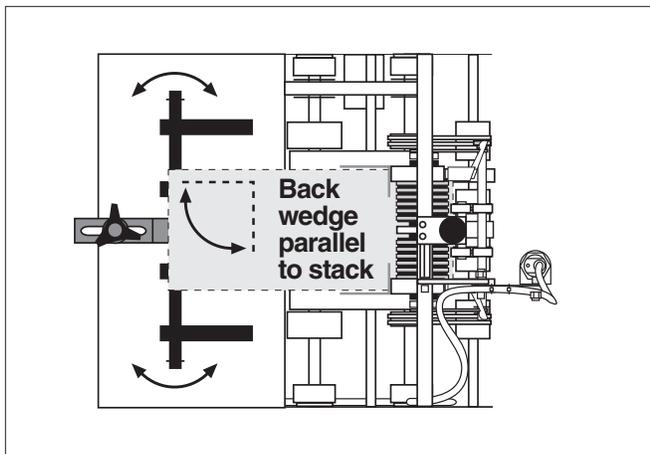

Figure 24. Adjusting Back Wedge for Parallel
5. Make sure the edge of the back wedge assembly is parallel with the edge of the material stack (Figure 24). Adjust as required and then tighten knob.